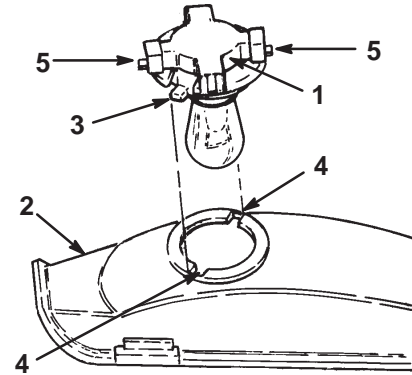

Figure 35
3. Rotate the bulb holder 1/4 turn counterclockwise and remove it from the reflector (Fig. 35).
2. The bulb holder has two tabs (Fig. 35). Align the tabs with the slots in the reflector, insert the bulb holder into the reflector and rotate it 1/4 turn clockwise until it stops.